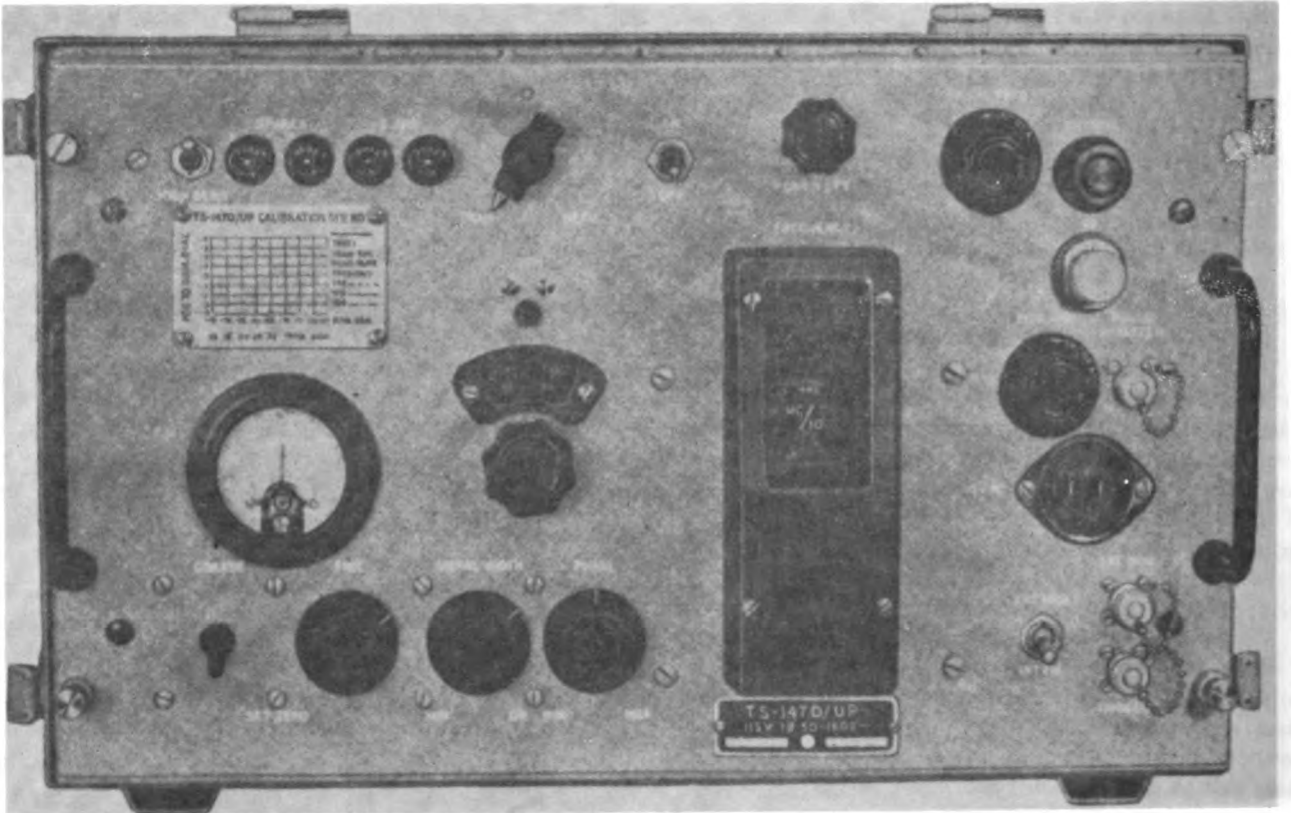

Figure 4-1. Test Set TS-147D/UP
b. Set the following controls: (See figure 4-1.)
(1) Test Set TS-147D/UP (See figure 4-1.) is a portable power level wattmeter and microwave signal generator for testing and adjusting beacon and radar systems in the frequency band from 8500 to 9600 megacycles.
(2) The test set supplies microwave signals, either frequency modulated, or continuous wave, of known power level and frequency, and also accepts signals for power and frequency measurement. It can be pulse modulated from an external source.
(3) It contains a direct reading frequency meter and a power level wattmeter that, in conjunction with calibrated attenuators, reads power in dbm (decibels with reference to one milliwatt).
(4) In conjunction with an oscilloscope or synchroscope, the test set can be used for alignment and bandwidth measurements of radar receivers and for checking microwave plumbing. Using the FM signal of the test set, the horizontal sweep of an oscilloscope